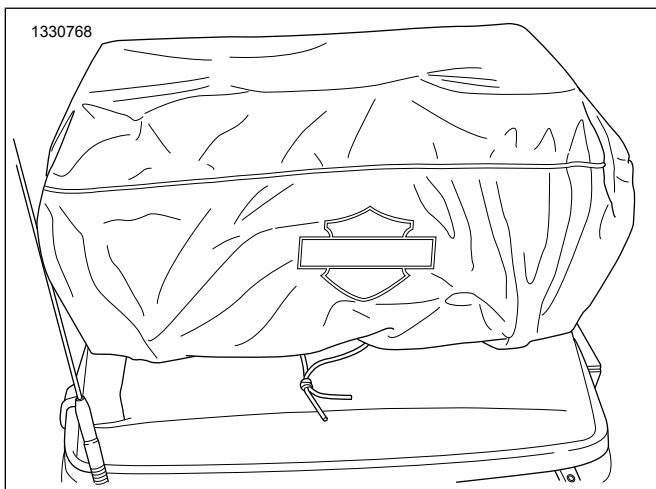

Figure 8. Rain Cover
1. Figure 8 Pull rain cover over entire bag with Bar and Shield facing rear of bag.